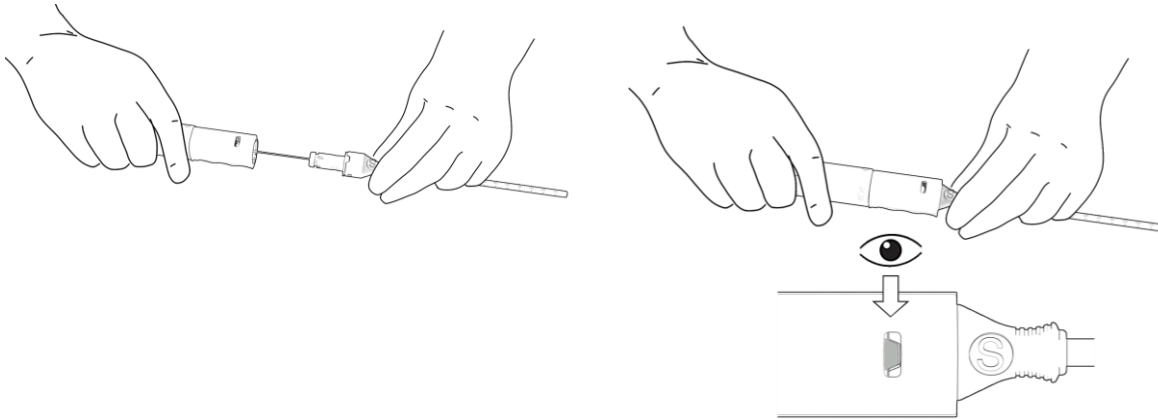

Figure 10. Insertion of PerQseal® closure device into Introducer-sheath
- c. Holding the Introducer-sheath hub in one hand and the device handle in the other hand, carefully advance the device handle. Ensure the indicators on the Introducer-sheath and handle are in alignment and the loading cannula/sheath hub assembly locks (with a click) into the device handle. Note the green indicator in the window. This confirms that the PerQseal® closure device handle has been successfully locked. Figure 10.